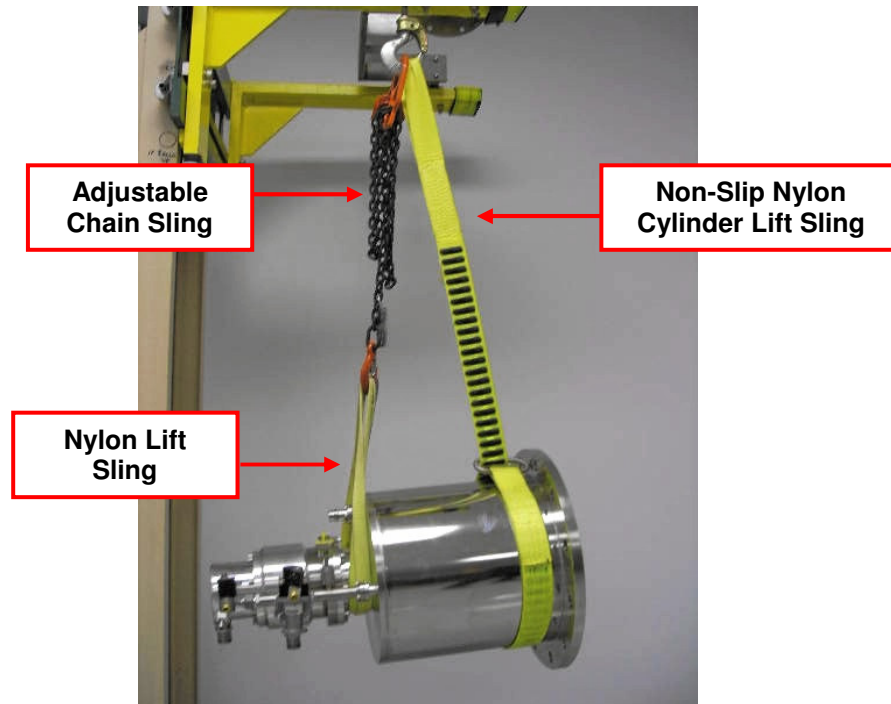

Figure 6 Lifting the Cryopump with Commercial Lift Equipment
1. Using properly rated commercial equipment, lift or move the cryopump as shown in Figure 6. Be sure the cryopump is held in a balanced and stable position. Follow all applicable safety procedures for overhead material transport.